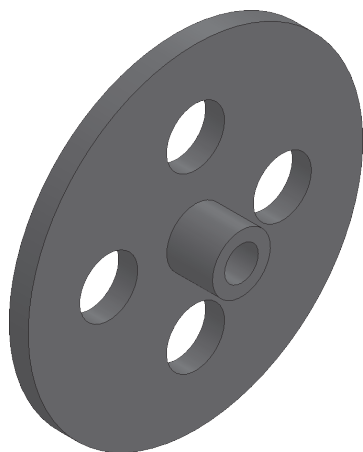

Fig. 26
- Step 2. In the Appearances Task Pane expand **Plastic**, click **High Gloss** and in the lower pane click **dark grey high gloss plastic**, Fig. 26.